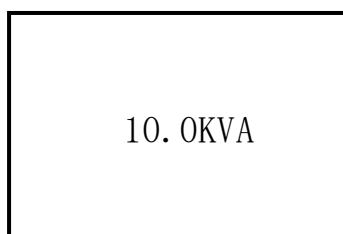

Fig.1: Main interface
- 1) The main interface below comes out when the power is connected or the system is cold start. See Fig1